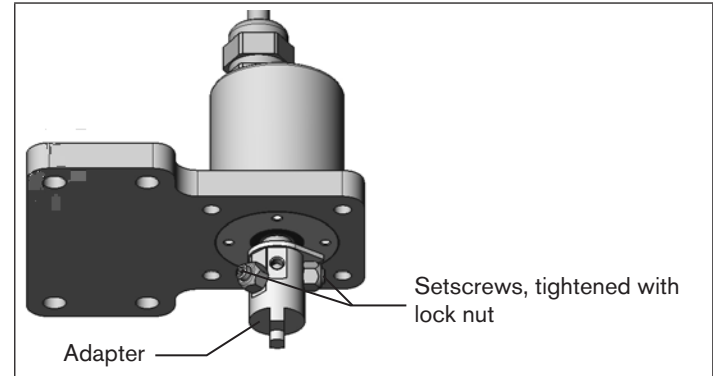

Fig. 22: Fitting the adapter
- Fit adaptor to the shaft of the rotating Remote Sensor and attach with 2 setscrews (see "Fig. 22").